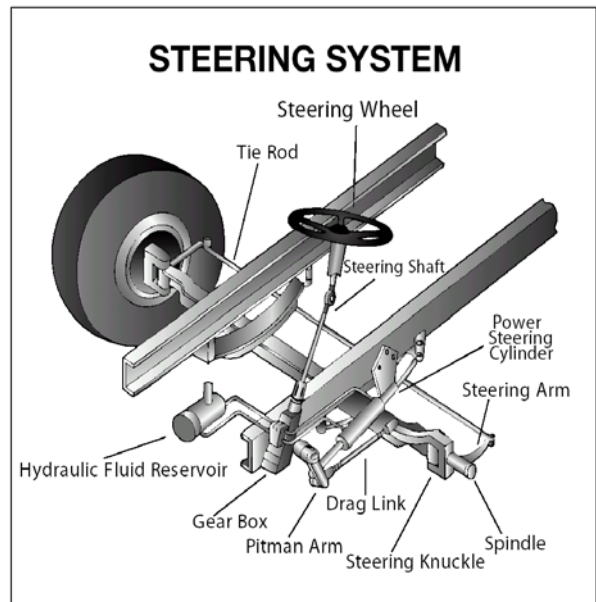

Figure 2.1
- Steering wheel play of more than 10 degrees (approximately two inches movement at the rim of a 20-inch wheel)—Figure 2.1 illustrates a typical steering system.
Figure 2.1 illustrates a typical steering system.